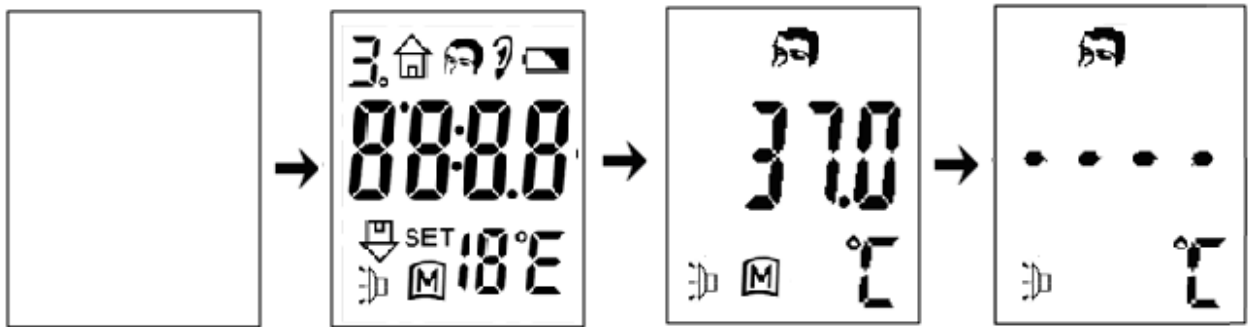

Figure 10
- 1) The Forehead/Ear mode shift button ③ will be triggered when placing the removable cap ① on the infrared probe tip ②. Press START button the device will turn on and the LCD display will show all segments for 2 seconds. Then the device will display the last reading if there are readings stored in it. After that a “be” sound is heard and the device is ready for forehead measuring mode. (The “be” sound will not be heard if the voice function has been closed.) See figure 10. If take off the removable cap at this time it will shift to ear measuring mode.